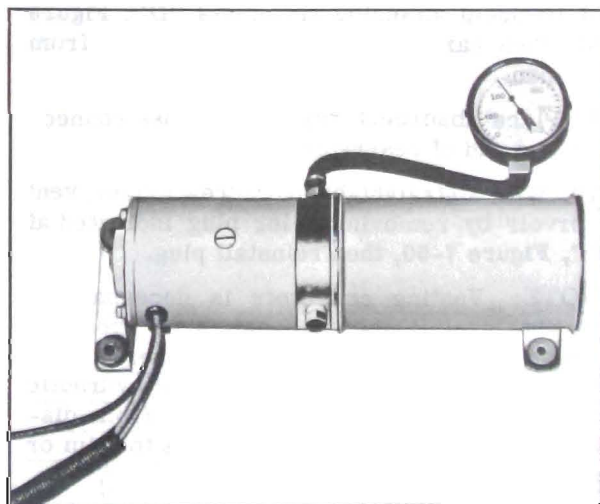

Figure 7-58—Checking Pump Pressure
b. Install plug in one port, and pressure gauge in port to be checked (see Figure 7-58).